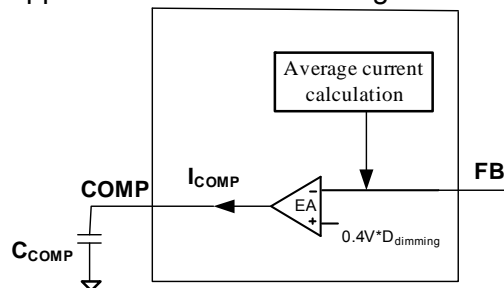

Figure 16—FB Pin Structure
Pin 7 is the feedback signal pin. As shown in Figure 16, the FB signal connects to the negative input of the error amplifier (EA) and compared against the $0.4V$ reference when dimming on, so at steady state, the average value of FB will be regulated to $0.4V \cdot D_{\text{dimming}}$. The average current calculation block output is internally connected to the FB with high input impedance. If there is no other external feedback signal is applied on FB pin, the average current from CS pin will be regulated, if there is external FB signal with low input impedance apply in this pin, the external FB signal will be regulated. This structure makes the MP4020 suitable for both primary side control application without other feedback signals and direct control application with an applied external feedback signal.